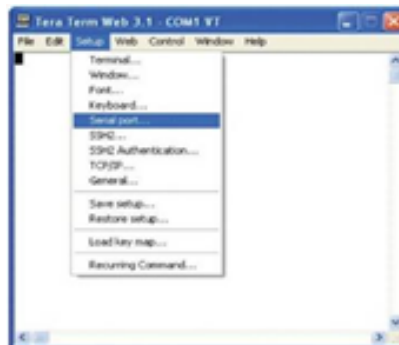
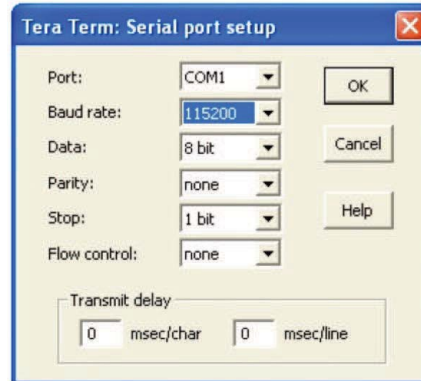

Figure 4-5: Setup
Figure 4-6: Serial Port Setup
2. Click **OK**. A blank dialog screen, Figure 4-5 displays.
3. Click **Setup** to expand the drop-down menu, Figure 4-5 and select **Serial port**. The Serial Port Setup window, Figure 4-6, displays. In this window, you can make changes to the serial port setup.
4. Configure the terminal program for the correct COM port, Figure 4-6.